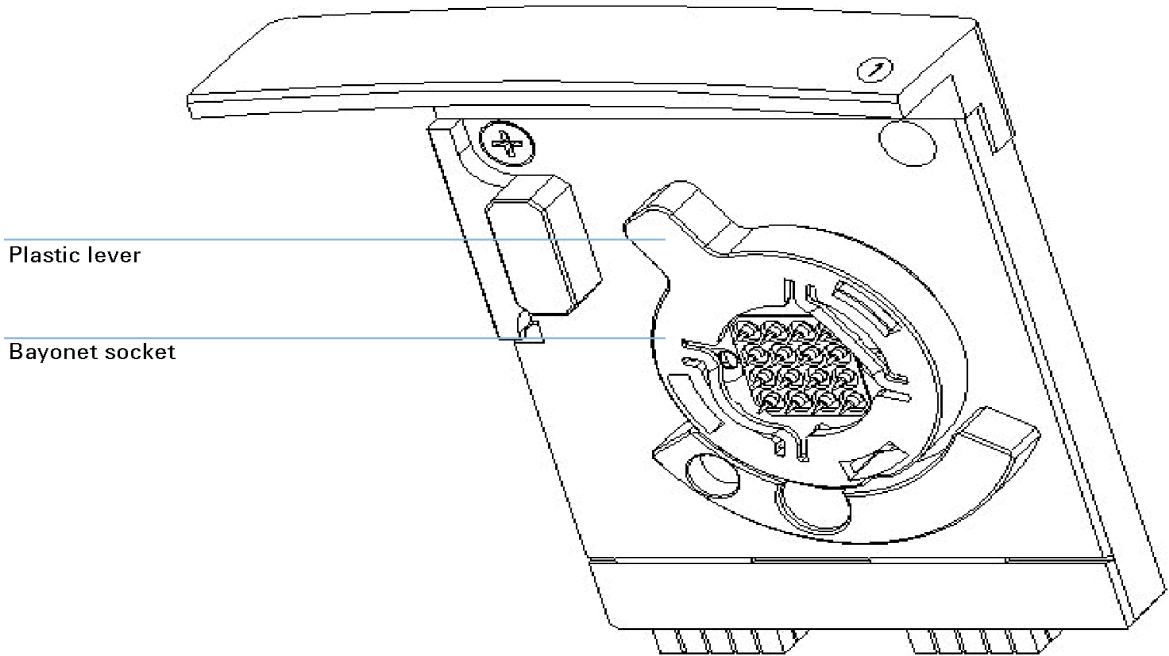

Figure 2 Bayonet socket of the electrode pin set
- 4 Open the bayonet socket of the pin set by turning the plastic lever to the left, see Figure 2 on page 157.
- 11 Lock the pin set to the electrode base by turning the plastic lever of the bayonet cover to the right, see Figure 2 on page 157.